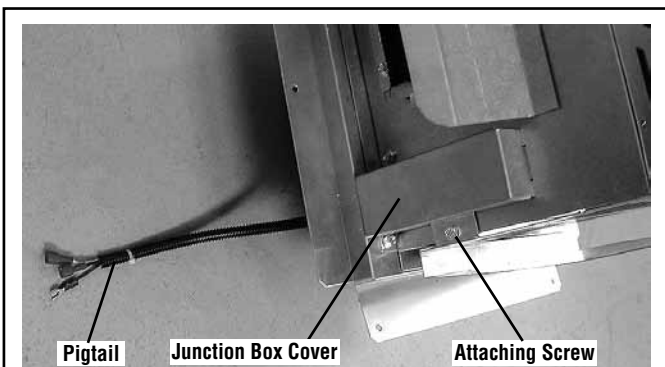

Figure 22 - Bottom Of Termination
- Locate a locally procured electrical junction box within reach of the termination wiring pigtail (refer to Figure 22 on Page 19) and route the pigtail to the junction box as the termination is installed.
- Remove the junction box cover from the termination by removing the attaching screw (refer to Figure 22).
- Loosen the strain relief on the termination shown in Figure 22. Pull the pigtail in and shorten it to fit within the junction box cover.